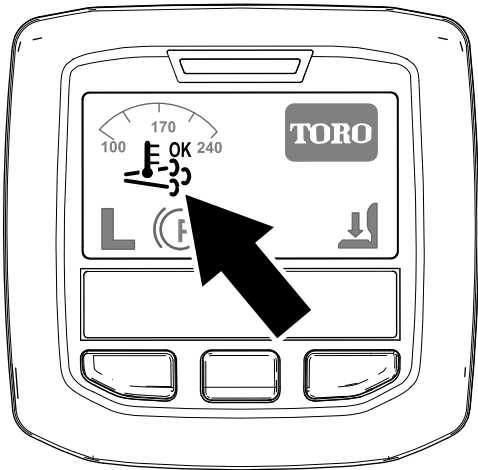

Figure 27
- The assist/reset-regeneration icon displays in the InfoCenter (Figure 27).